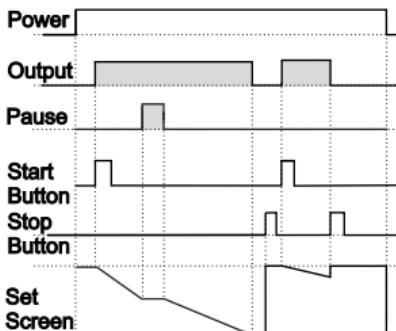

Figure 2.1
2.1.1 If Downcount `dEct`=1 and `outF` is `0-n` the control diagram is shown in Figure 2.1